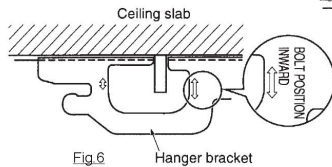

Fig.6
- Make sure that extended suspension bolt from the ceiling stays inside the arrowed position. Readjust the hanger bracket when it is outside the arrowed position. (Refer to Fig.6)